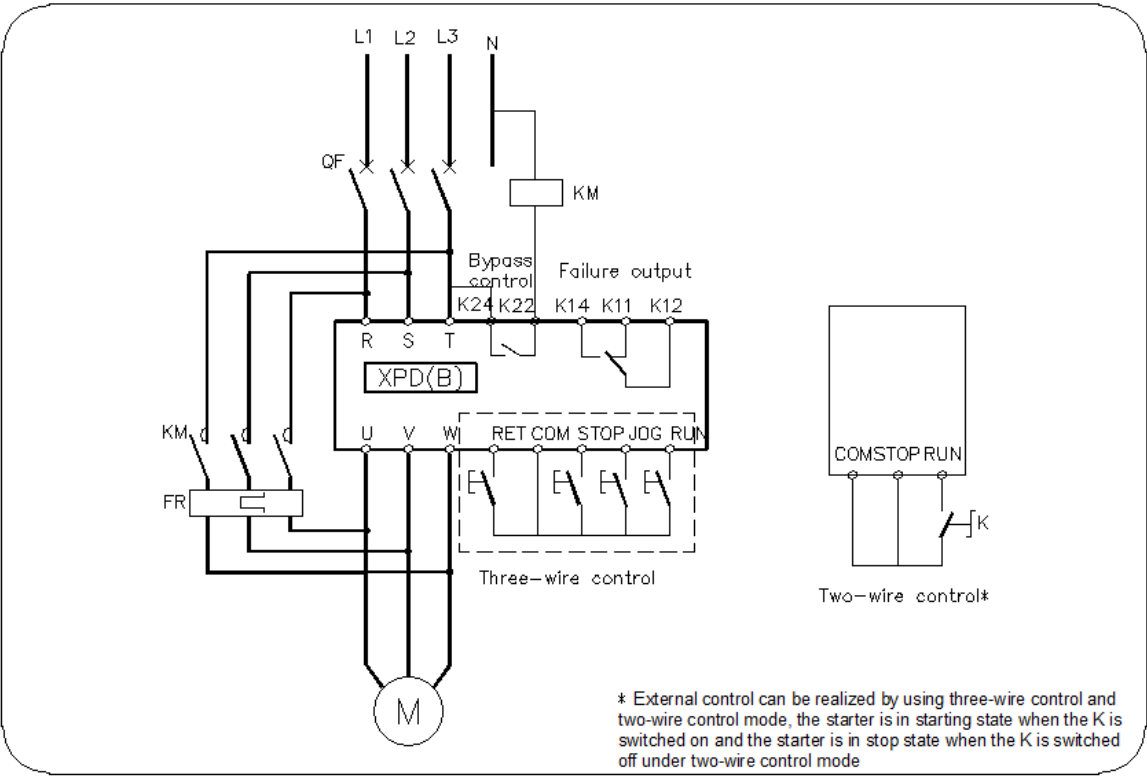

Figure 5-2
1. The XPD series B-type smart soft starter has no on-line operating function after the starting is completed, wherefore it must be equipped with the bypass contactor KM, see Figure 5-2.
2. The XPD series B-type smart soft starter only has open-phase protective function of input voltage after the starting is completed and the bypass contactor is putted into service, so a thermal relay or a motor protector shall be connected to the motor side to protect the motor in the operation, see Figure 5-2.
2. There are two wiring methods of the XPD series B-type smart soft starter for external starting and stop control, these are three-wire control wiring and two-wire control wiring, see Figure 5-2 for details.
5. The start button RUN and the stop button STOP are unavailable when the start-stop control method is set as 3 and the exterior control is the two-wire control mode (see Figure 5-2 on page 7 for details).